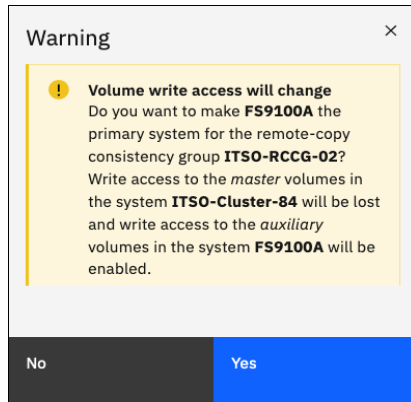

Figure 10-140 Switching the direction of a consistency group changes the write access
3. Because the master-auxiliary relationship direction is reversed, write access is disabled on the new auxiliary volume (former master volume), while it is enabled on the new master volume (former auxiliary volume). A warning message is displayed, as shown in Figure 10-140 on page 713. Click **Yes**.